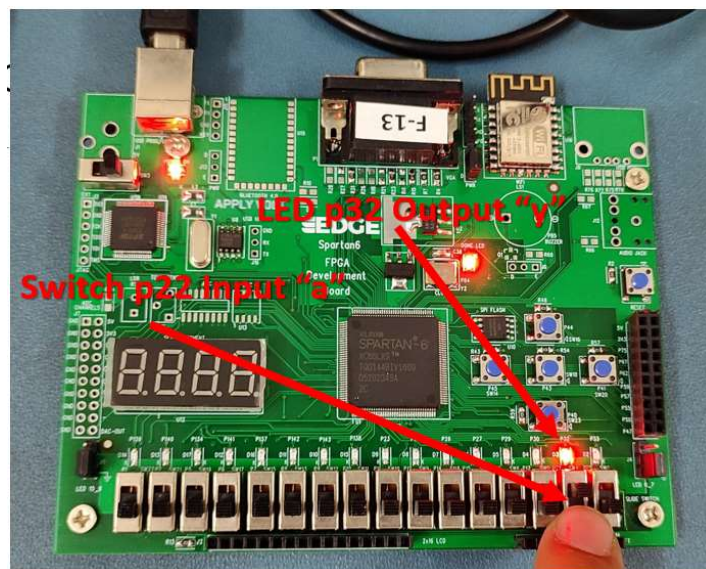

Fig 1.40
1) When the switch is pressed, LED turns ON (Fig 1.40)